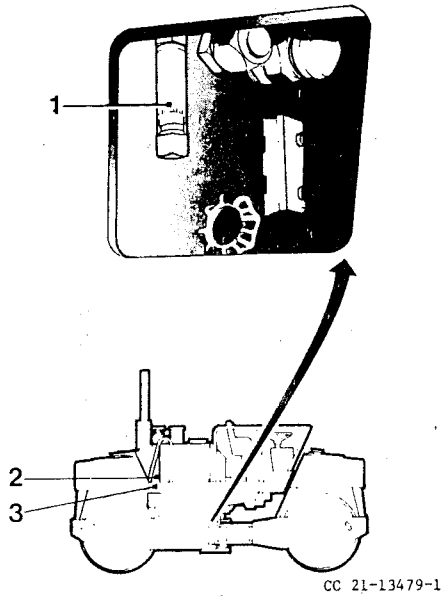

Fig. 3a Hydraulic tank
To top up, raise the cover (3) to expose the filler cap (fig. 3a).